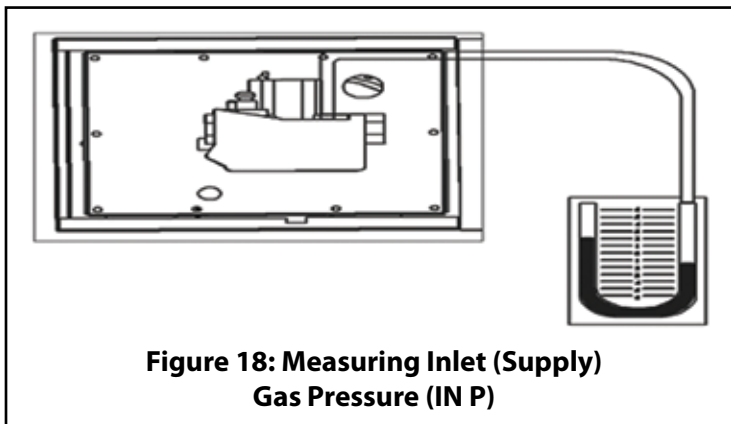
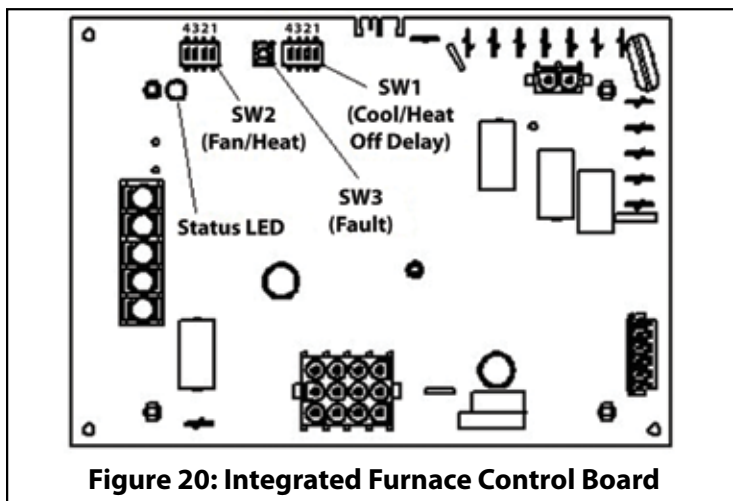

Figure 18: Measuring Inlet (Supply) Gas Pressure (IN P)
Figure 20: Integrated Furnace Control Board
2. Turn the switch on the gas valve to the "OFF" position. Refer to Figure 18 for switch location.
5. Find the gas valve pressure ports labeled "IN P" which is the inlet or line pressure tap (See Figure 18) and remove the pressure port cap.
6. Use a 3/32" (2.4 mm) Allen wrench to loosen the "IN P" port set screw by turning it counter clockwise one (1) turn only.
1. Find the gas valve pressure ports labeled "OUT P" (See Figure 18). OUT P is the manifold pressure tap.
2. Use a 3/32" (2.4 mm) Allen wrench to loosen the set screw by turning it counter clockwise one (1) turn only on the "IN P" port. **DO NOT REMOVE THE SET SCREW.**
3. Connect the 1/8" (3.175 mm) ID flexible tubing to the positive side of the "U" tube monometer or pressure gauge and the other end of the tubing to the port marked "IN P" on the gas valve as shown in Figure 20.
5. With the furnace operating, read the manifold pressure. The pressure should be between 3.3" W.C. and 3.6" W.C. for natural gas and 9.8" W.C. and 10.2" W.C. for propane (LP). Check the input using the calculations in Table 3 or Table 4, page. If the input is not within 8% of the input listed on the furnace data plate, replace the gas valve.